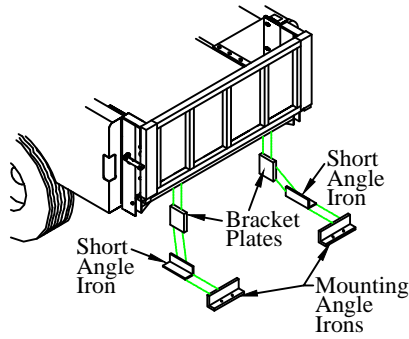

Figure 14: Lower bracket support.
2. **Bolt** the bracket plates to the truck frame (Figure 14).